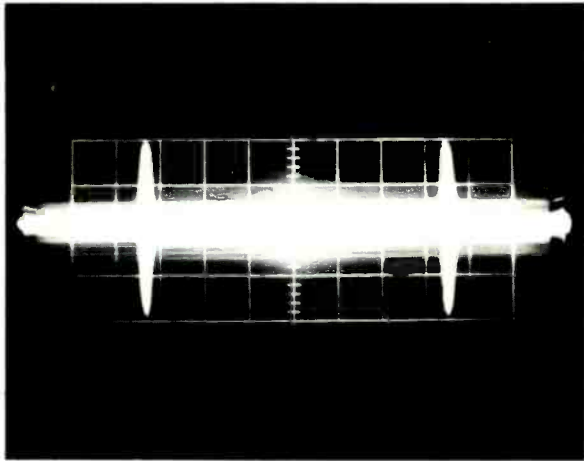
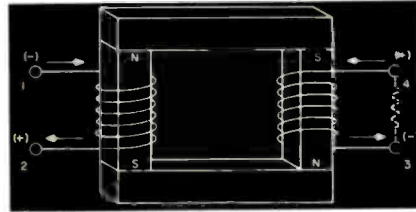
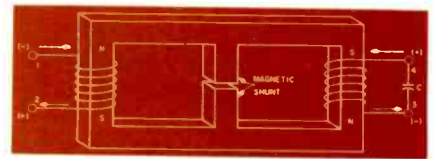

Fig. 11 — "Spook" burst signal.
Fig. 4 — Changes in current through the primary winding of a transformer induce current through the secondary winding.
Fig. 7 — Primary and secondary coils in a "constant-voltage" transformer are basically the same as those in a regular transformer.
Fig. 11 shows the "burst" pulse as it appears in the plate circuit of the burst amplifier. If you have trouble observing the narrow burst pulse, you might try taking a lead from the "external sync" binding post and dressing it over the yoke area of
Two iron-core coils, like the one shown in Fig. 1B, are used in the transformer shown in Fig. 4. (Terminal 1 on the left coil corresponds to terminal 3 on the right coil, and terminal 2 corresponds to terminal 4 — one coil being an upsidedown version of the other.) When a negative potential is connected to terminal 1 and a positive potential is connected to terminal 2, a current flows through the coil producing a north magnetic pole at the upper portion of its core and the lower portion of the right core.
When there is a reduction in the amount of applied current, the strength of the magnetic field decreases and a current is induced in the opposite direction (from terminal 3 to terminal 4 in Fig. 4) through the secondary coil (refer to Fig. 10 in the October 1967 article).
By reversing the direction of the applied current (from terminal 2 to terminal 1 in Fig. 4), the polarity of the magnetic field produced is also reversed. However, as the applied current increases the strength of the reversed magnetic field also increases. The induced current still flows through the coil in the same direction (from terminal 3 to terminal 4) as before (refer to Fig. 11 in the October 1967 article).
No current, of course, will actually flow between the terminals (3 and 4 in Fig. 4) of the transformer's secondary coil unless some circuit (or load) is connected to it. Otherwise, only a potential voltage would exist between the two terminals. When a resistor (R) is connected between these terminals, the amount of current (I) flowing through the resistor will depend on the familiar equation:
When a capacitor is substituted for the resistor (R) shown in Fig. 4, it will absorb electrons at terminal 3 during one-half cycle and then return them to terminal 3 during the following half cycle. Electrons are thus able to flow through the coil between terminals 3 and 4 without actually being conducted through some external circuit. Virtually no electrons pass through the capacitor from one terminal to the other, and the capacitor, therefore, does not consume a significant amount of the
The primary and secondary coils in the "constant-voltage" transformer (Fig. 7) are basically the same as those in the regular transformer (Fig. 4). With each half cycle of applied ac primary voltage, the alternating magnetic field that is produced realigns the iron domains in the opposite direction — the change in their alignment inducing nearly enough energy across the capacitor to align all of the domains in the opposite direction on the following half cycle. The magnetic field produced by the applied ac primary voltage is greater than that required to align the balance of the domains, even when this applied ac voltage is less than the normal line voltage. When the ac line voltage is normal, or becomes even greater than normal, the resulting primary magnetic field produced is even greater than what is required on the following half cycle to align all of the domains in the secondary portion of the soft iron core.